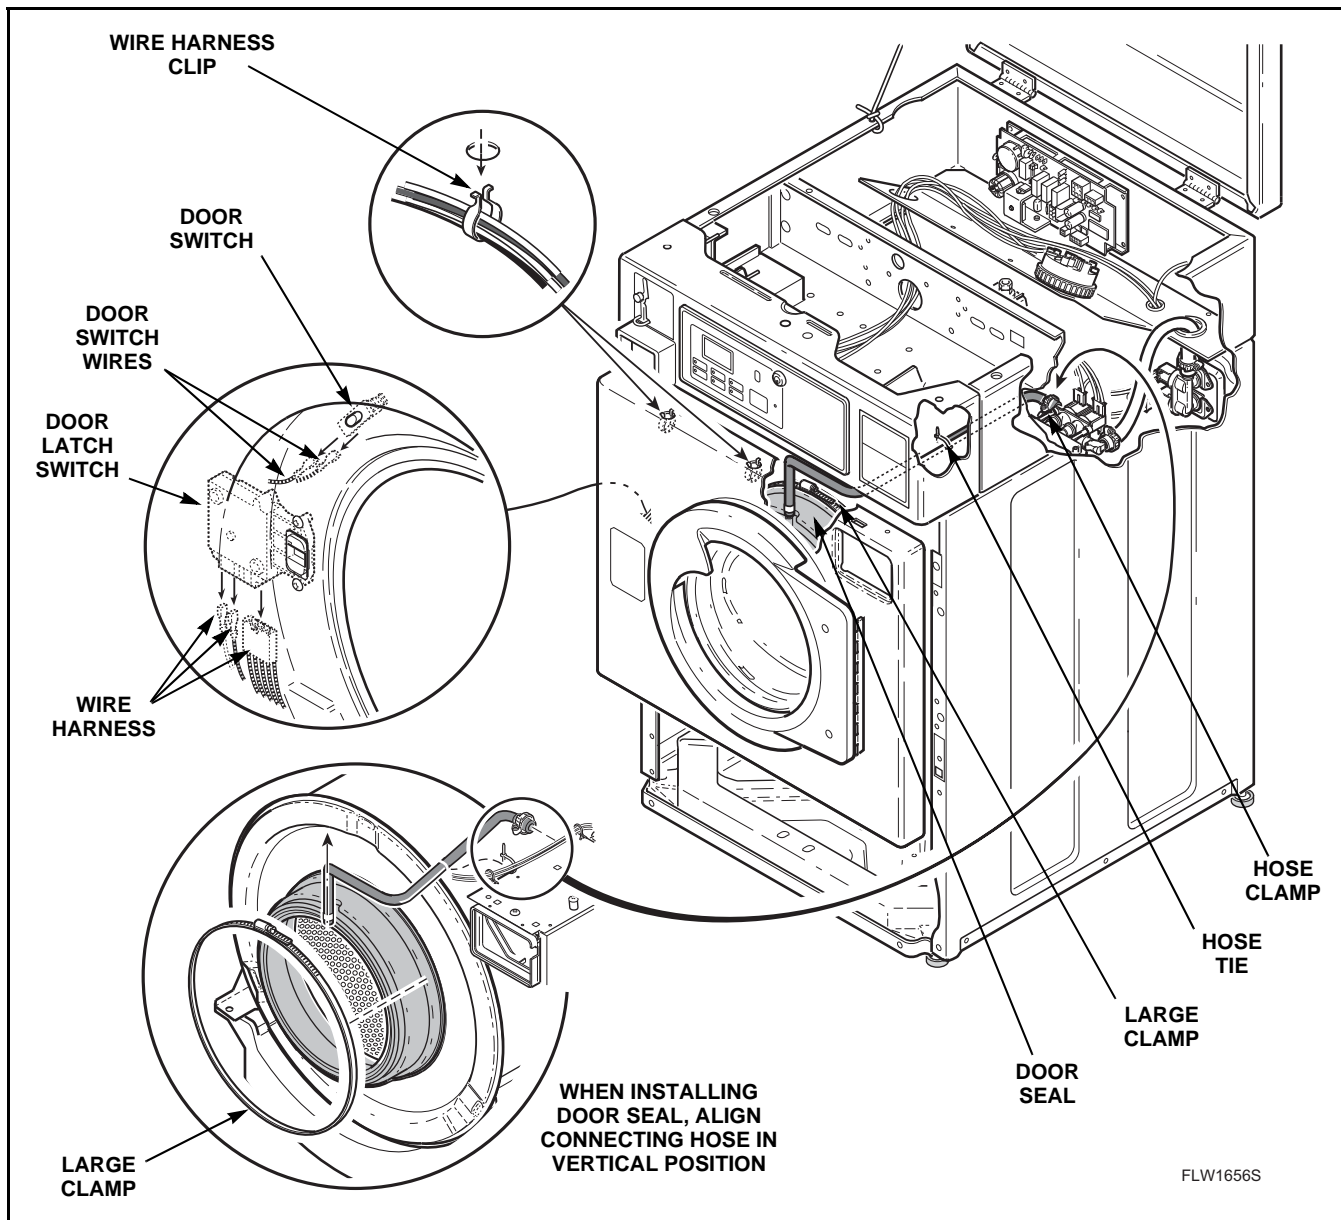

Figure 35
**NOTE:** Door seal hose and wire harness must be reinstalled in the appropriate clips and holes along top flange of front panel. Refer to *Figure 35*.
- r. Loosen hose clamp and remove door seal hose connection at the dispenser. Refer to *Figure 35*.
**IMPORTANT: When installing door seal hose, pull hose tie tight to prevent damage. Refer to *Figure 35*.**
- q. Loosen hose clamp and remove dispenser valve-to-door seal hose connection at the dispenser. Refer to *Figure 35*.
- r. Loosen large clamp holding door seal to front of outer tub. Carefully pull seal off front lip of outer tub front panel and remove door seal and hose. Refer to *Figure 35*.